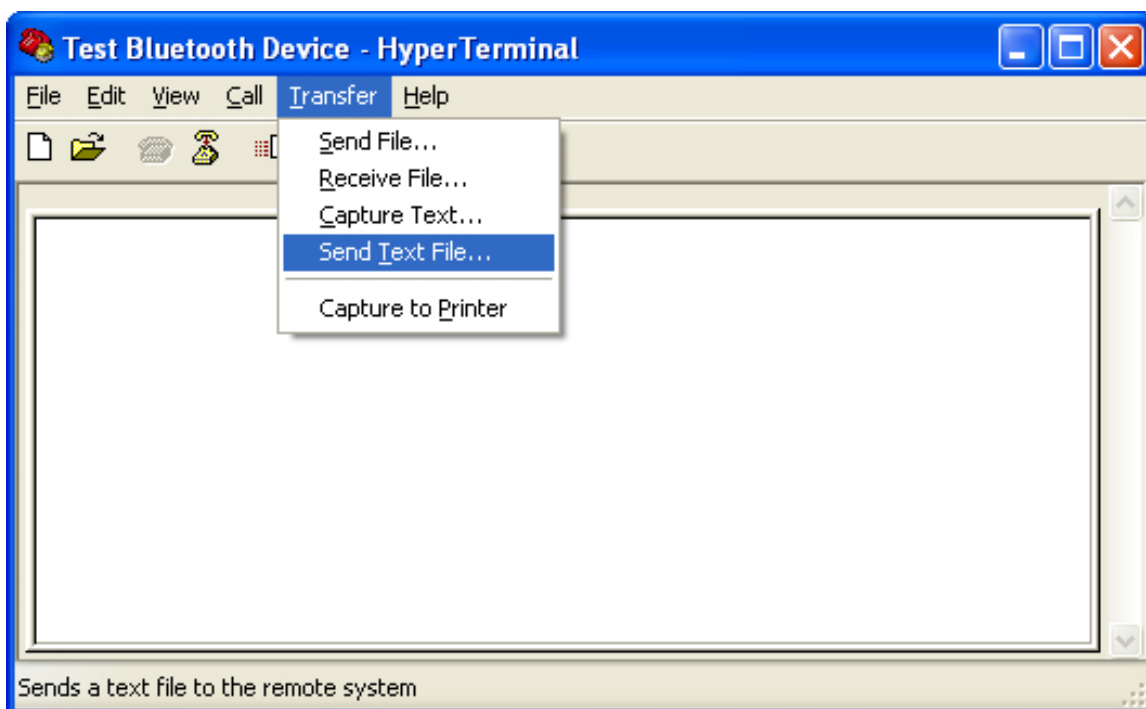

Figure 6. Transfer > Send Text File
- On the sending computer's HyperTerminal main menu, click on **Transfer** and then select **Send Text File**. See Figure 6.